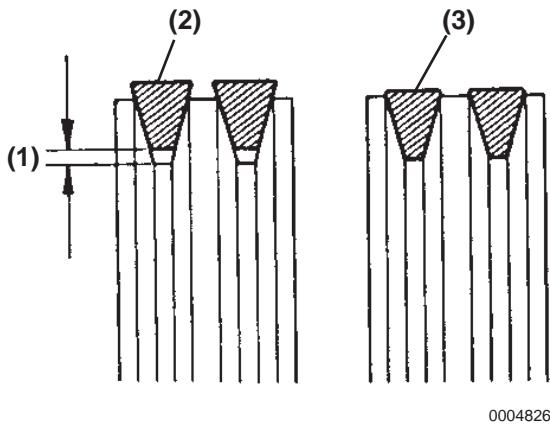

Figure 11-3
1. Visually check for cracks, oil on surface, wear and damage. The belt should not contact the bottom of the pulley groove (**Figure 11-3**). Replace the belt as necessary.